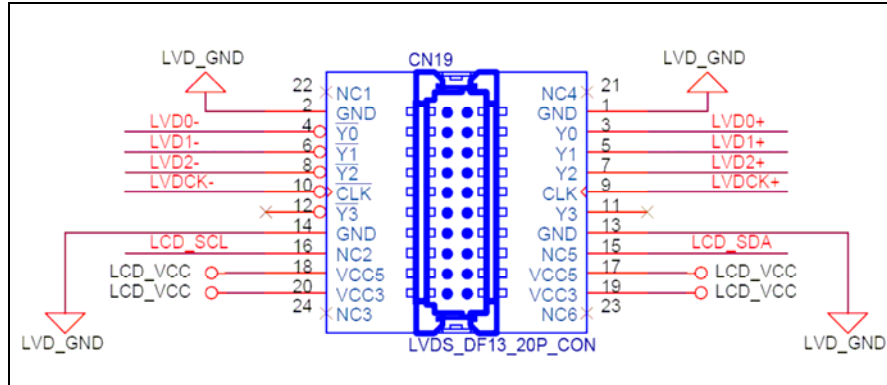

Figure 3-18: TFT LCD LVDS Connector Pinout Locations
- CN Location:** See Figure 3-18